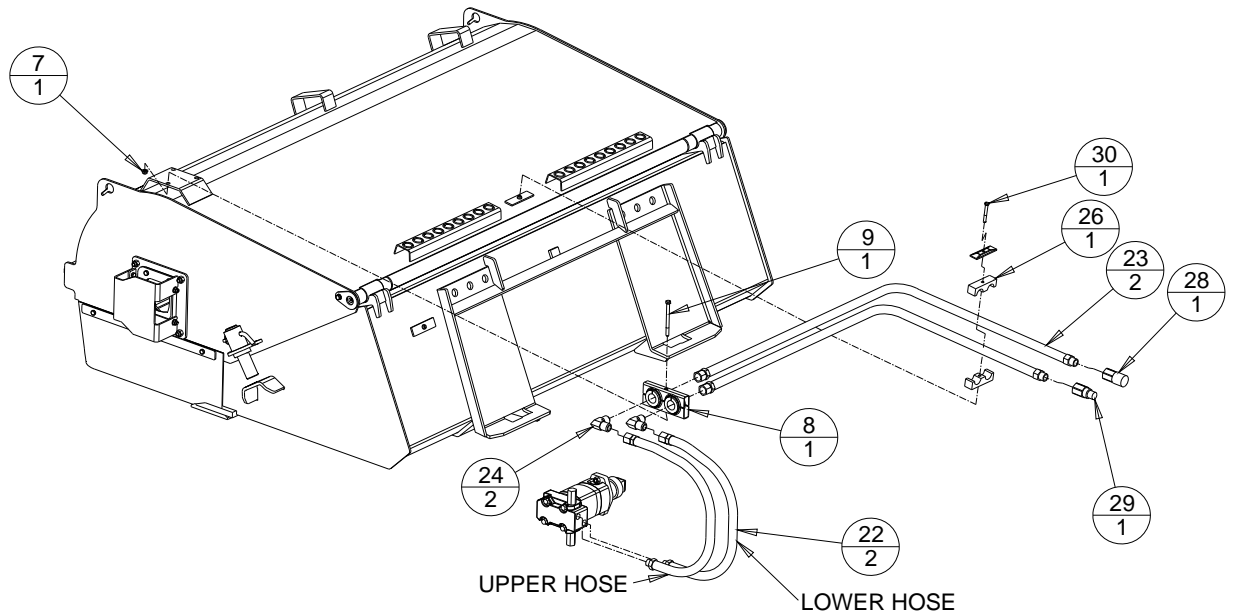

FIGURE 4.
- Remove 3/8" nut (Item #7) holding the hose clamp (Item #8) on left hand side (as seated in machine) of broom and remove hose clamp (see Figure 4). These items will not be used for the Gutter Brush installation.
- Remove 90° elbows (Item #24, See Figure 4) connecting the lead hoses (Item #23) to the motor hoses (Item #22). Take note of which lead hose and coupler connects with which motor hose. These elbows will no longer be used. To minimize loss of hydraulic oil, lay coupler ends of hoses on the ground and hold elbows over drain pan when disconnecting.
- Connect the lower motor hose (see Figure 4) to port "M1" on the valve block and the upper motor hose to port "M2".